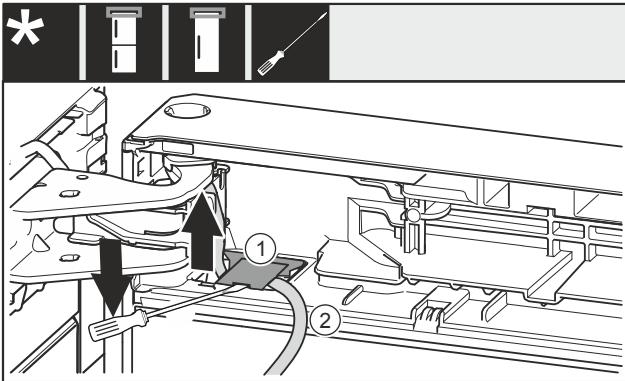

Fig. 20
- ▶ Use the slotted screwdriver to lift the cover Fig. 20 (1) up and pull it out.
- ▶ Pull out the cable Fig. 20 (2).